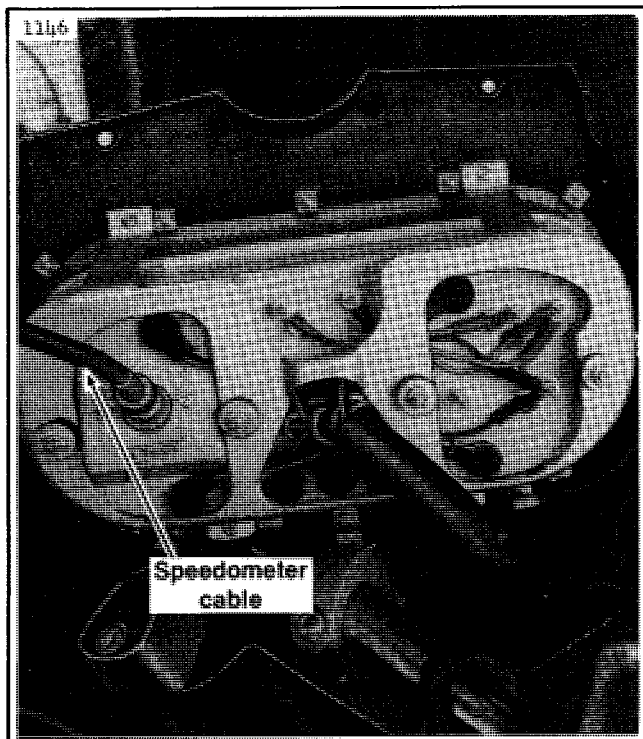

Figure 1. Speedometer Cable Location
2. Disconnect the speedometer cable (See Figure 1). Lift head up and out of the way. Do not disconnect any other wiring.